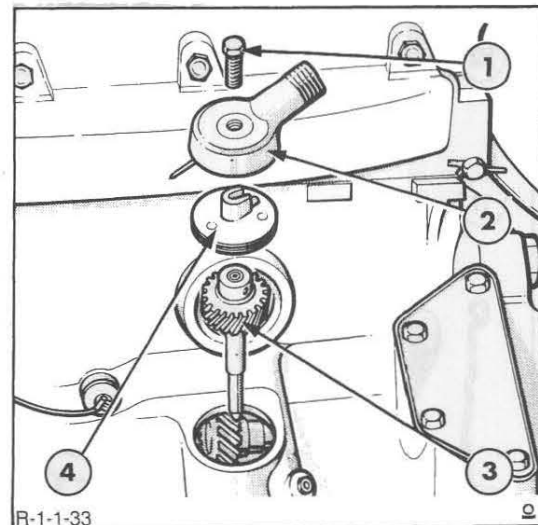

Figure 32
4. Slacken the retaining bolt then withdraw the driveshaft adapter assembly where fitted or remove the welch plug from engine block and the oil pump drive gear, Figure 32.